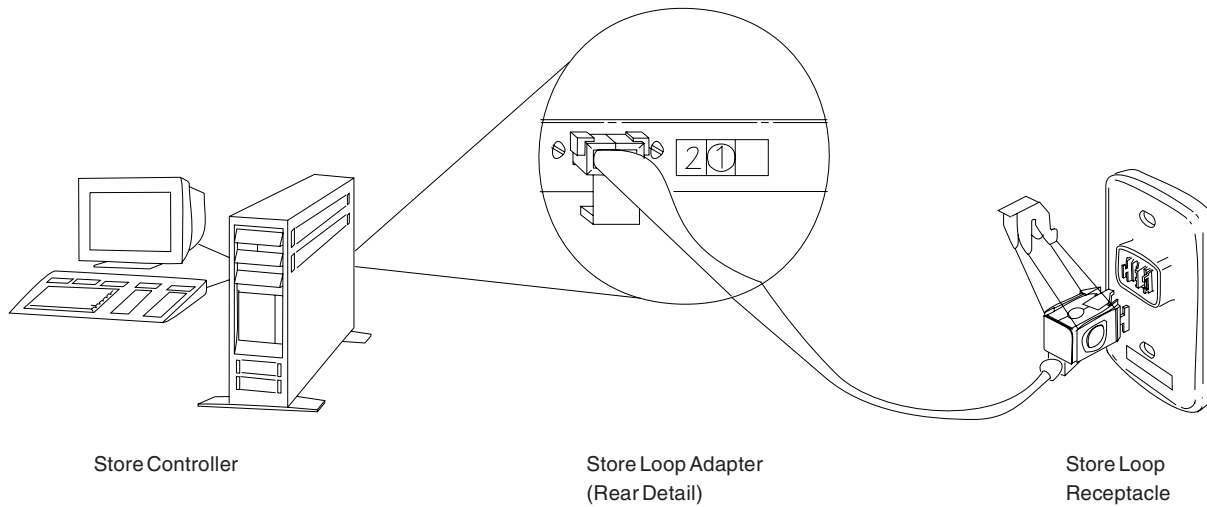
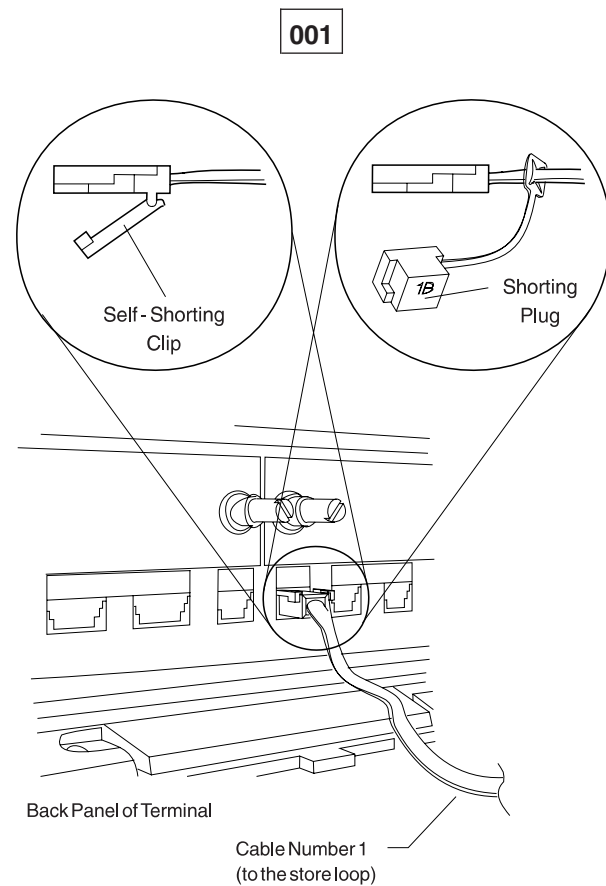

Figure 24. Store Controller Store Loop Adapter and Store Loop Receptacle
Figure 25. Mod1 terminal Store Loop Cable 1 and Shorting Plug 1B
Ensure the store loop cable is plugged into the loop socket on the terminal displaying U003 and that the other end of the cable is plugged into the store loop receptacle. See Figure 24 on page 450 and Figure 25 on page 450.
- Disconnect this Mod1 terminal from the store loop by unplugging its store loop cable from the store loop receptacle. See Figure 24 on page 450.